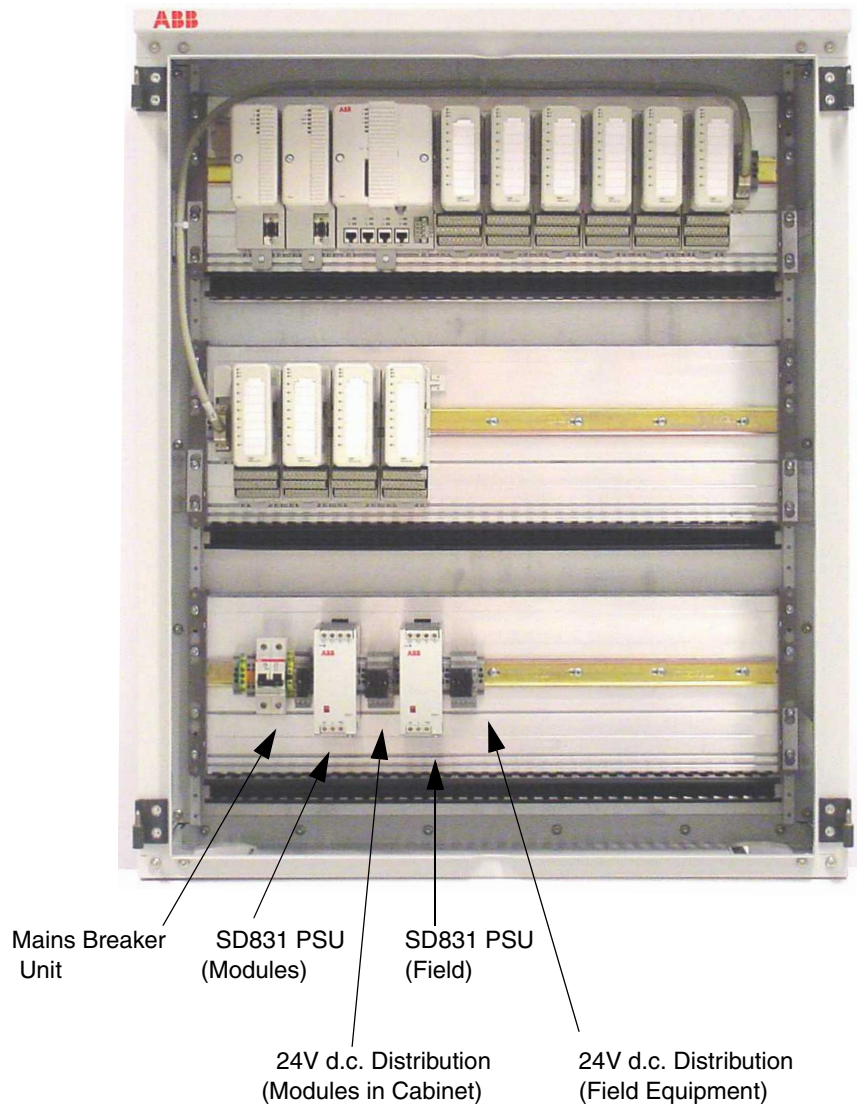

Figure 52. Wall Cabinet - Dual Power Supply (Local/Field) Arrangement
- Figure 52 on page 117, Wall Cabinet - Dual Power Supply (Local/Field) Arrangement